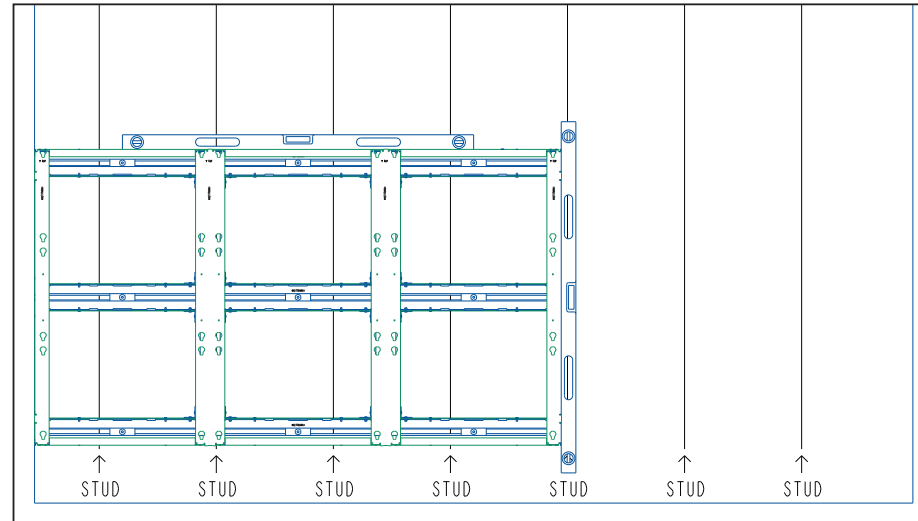

Figure 3: Position Frame on Wall
4. Mark the location for the perimeter of the frame on the wall. Use this mark to position the first frame. Hold the frame in place on the wall and use a 4' digital level on the top and sides of the frame while positioning it. Refer to **Figure 3**.